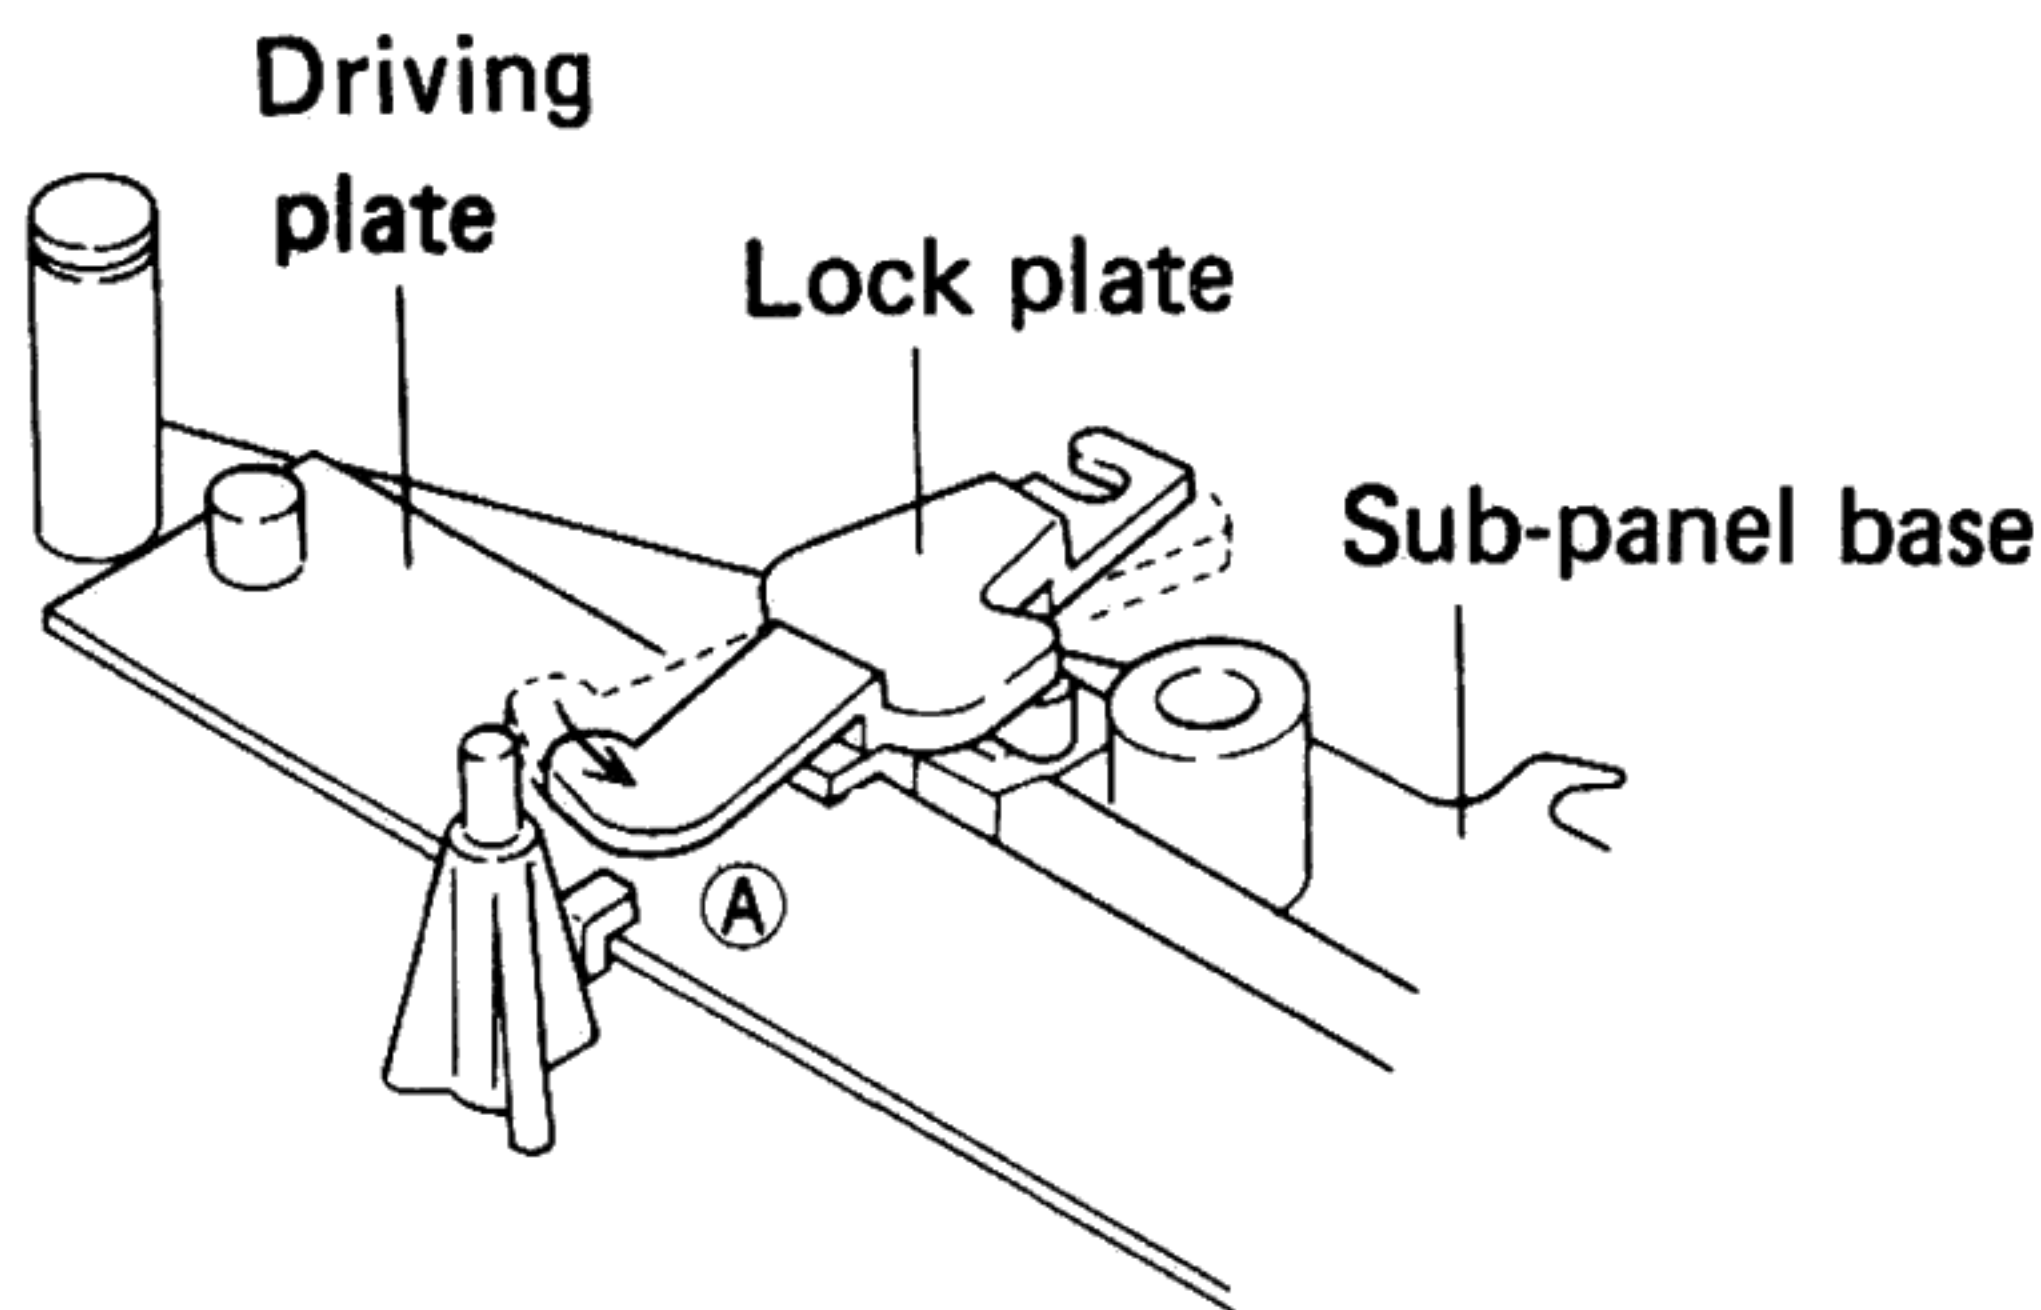

Fig. 5-12 Cam assembly attachment
The cam assembly is attached by letting the lock plate go in the direction (A) as shown in figure 5-12.